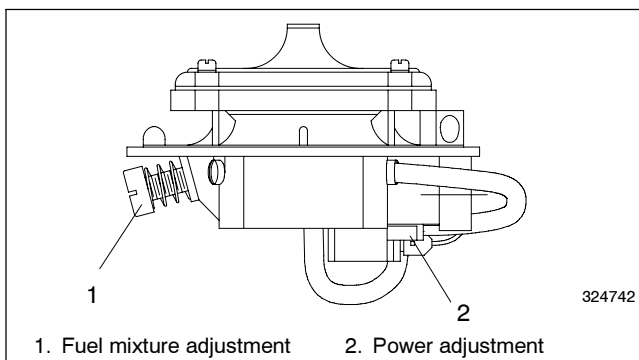

Figure 7-45 30-80 kW with Nolf NCA-225M and NCA-125M Style Fuel Mixers
- b. **30-80 kW generator sets.** Nolf NCA-225M and NCA-125M style gas mixers used on early versions of 30-60 kW 4.3 L and 5.7 L GM engines, 30-60 kW LP liquid withdrawal systems, and 80 kW 8.1 L GM engines. See Figure 7-45.
- Adjust the fuel mixture adjustment (Figure 7-45) to obtain a full load oxygen sensor voltage reading in the range specified in Figure 7-39.